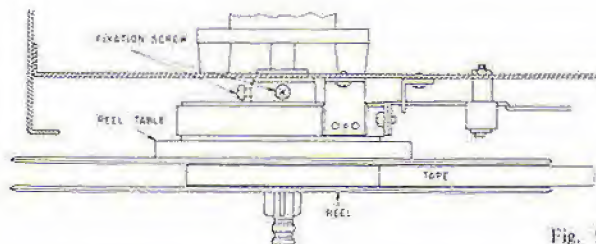

Fig. 9
12. REEL TABLE HEIGHT ADJUSTMENT (Refer to Fig. 9)